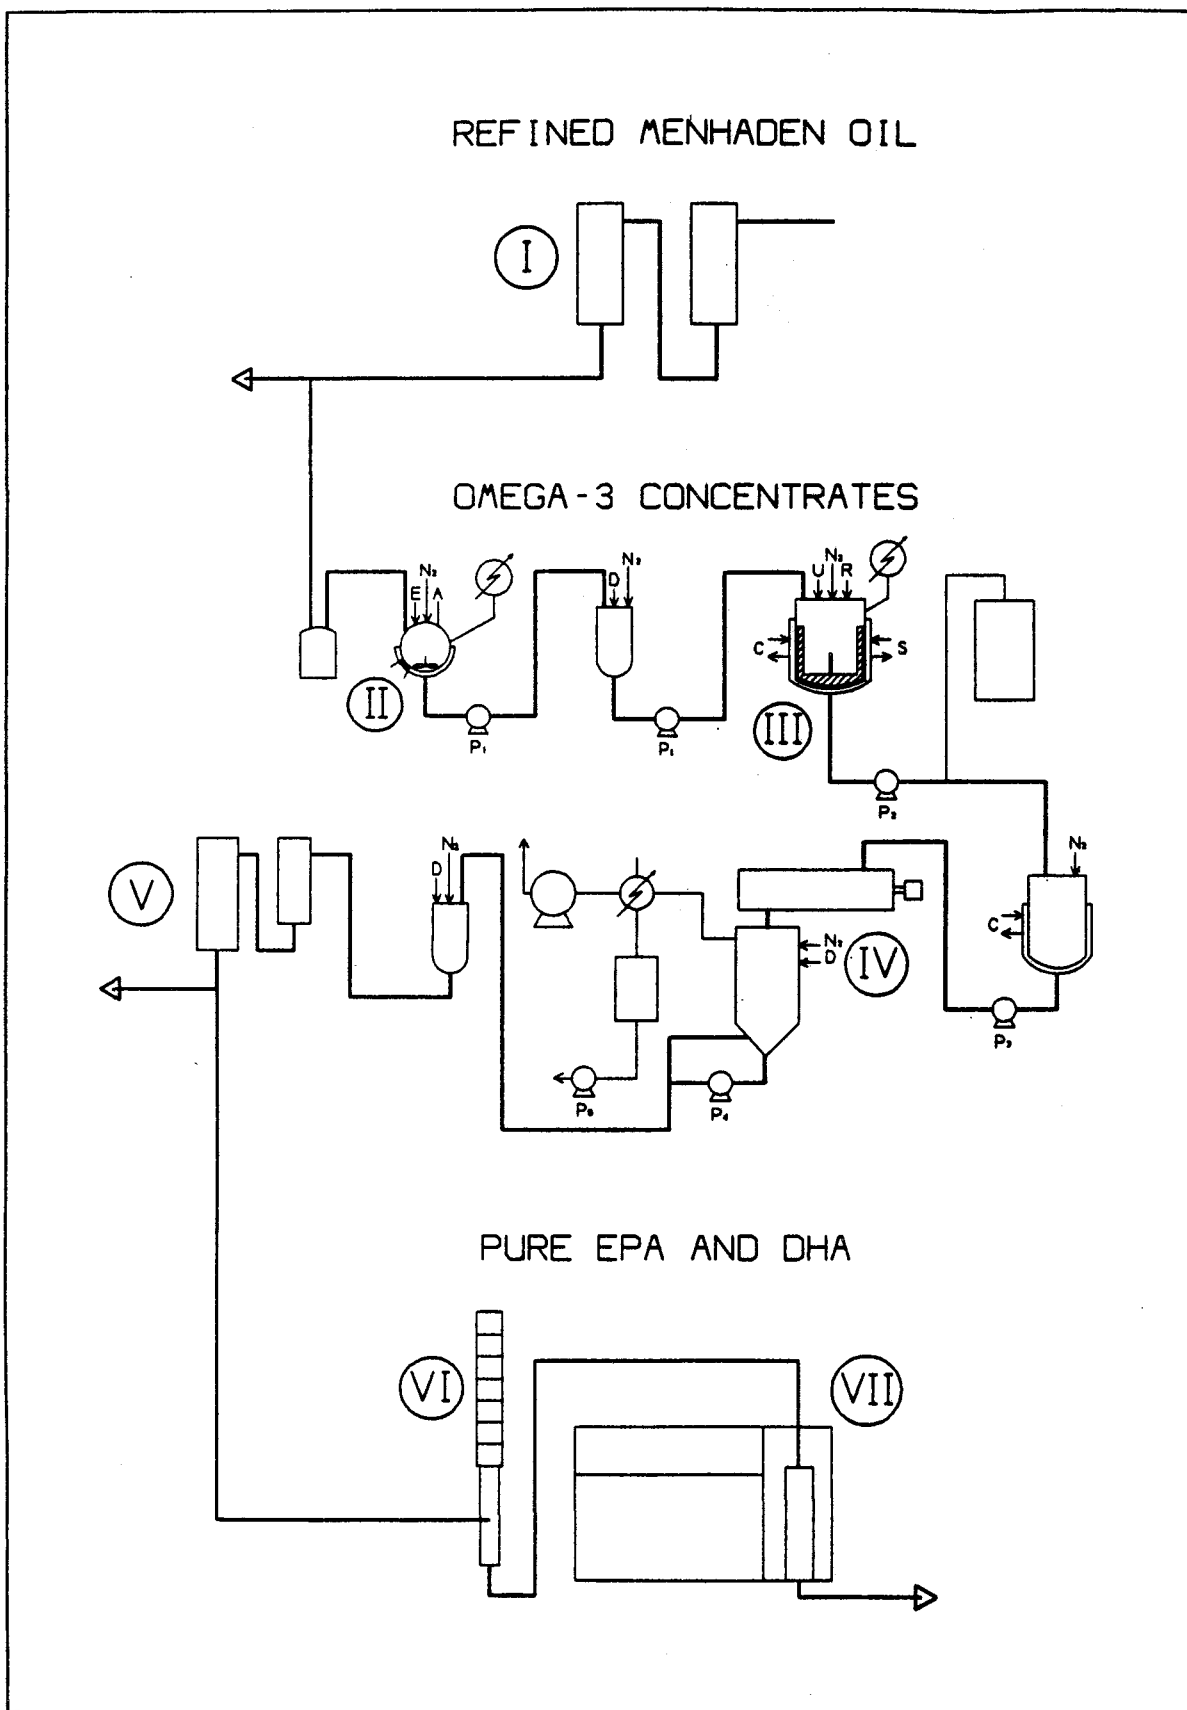

Fig. 1. Production of biomedical test materials in the Charleston Laboratory.
The first test material agreed upon in the Memorandum of Understanding between the NIH, ADAMHA, and DOC is a fully refined fish oil. This product is prepared by vacuum deodorization (Fig. 1, I) from a partially refined menhaden oil that has been winterized, alkali-refined and bleached by the supplier. Deodorization yields an oil with little odor and flavor, decreased cholesterol levels, and organic contaminants that are below detectable limits. This refined oil is supplied in bulk and in soft-gelatin capsules to NIH-approved investigators.
Refined oil also serves as the feedstock for production of omega-3 concentrates which are produced in a series of steps (Fig. 1, II-V). The oil is first transesterified to yield ethyl esters (II), followed by urea adduction of more saturated esters (III). In the next step, alcohol is recovered for reuse and the crude polyunsaturated esters are recovered (IV). Finally, the omega-3 concentrates are purified by short-path distillation (V). The concentrates are also available in bulk and in soft gelatin capsules.
A portion of the concentrates is reserved as feedstock for the supercritical fluid (SCF) CO₂ fractionator (Fig. 1, VI) to produce fractions of 20:5n-3 (EPA) and 22:6n-3 (DHA), each in a purity of $\geq 75\%$.
High purity EPA and DHA ($\geq 95\%$) are produced from SCF fractions or from distilled concentrates, by high performance liquid chromatography (Fig. 1, VII) on a process-scale column containing C18 reverse phase packing. High purity materials are packaged in small vials for distribution.
As illustrated in Figure 1, all chemical processes required to produce the ethyl ester concentrates are carried out in a N₂ atmosphere.